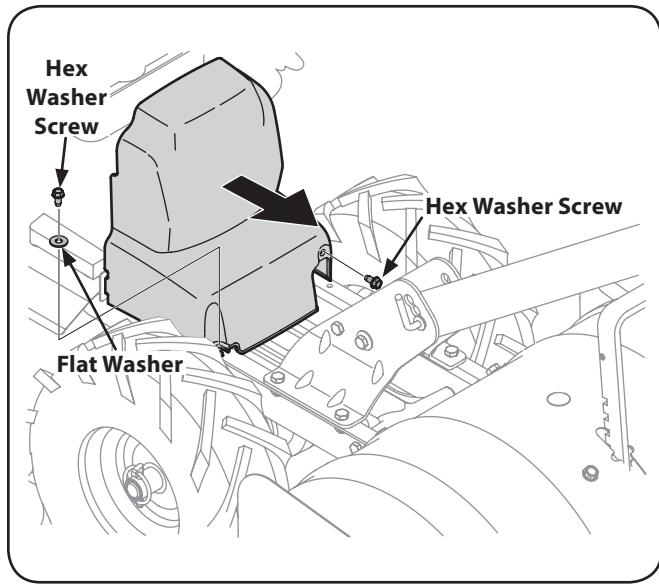

Figure 7-1
2. Remove the belt cover as seen in Figure 7-1, by first removing the two $\frac{1}{4}$ -20 hex washer screws and one flat washer. Lift the belt cover up and away from the tiller and set in a safe location until reinstallation.